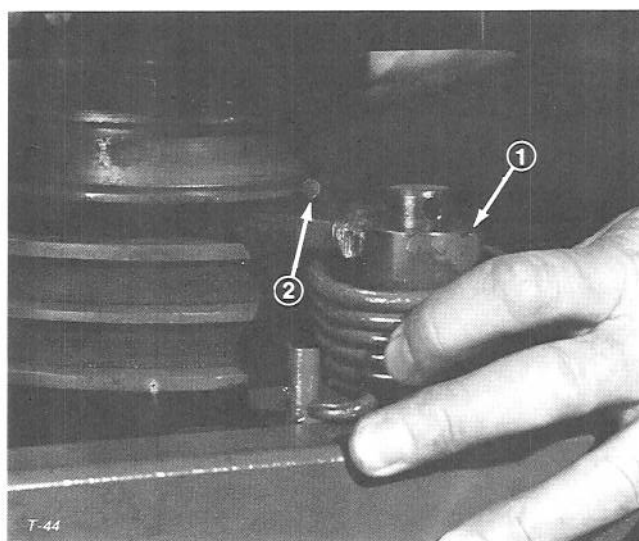

Figure 2
2. Install idler arm assembly over shaft and insert top hook in spring through hole in arm (Fig. 2).